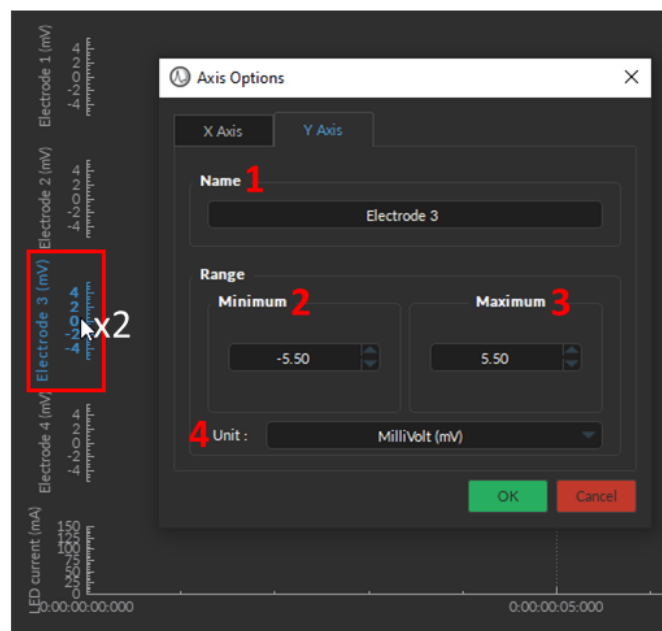

Figure 14.39: Double click on any axis to open its Axis Options window
- **Axis Options** - Each **Graph** (Fig. 14.39) has both a **Voltage** or **State** as the vertical axis and **Time** as the horizontal axis. Double-clicking either axis will open an **Axis Options** window (Fig. 14.39) where the axis limits can be set, similar to the **Zooming Range** in the **View Tab**. Any changes done on a horizontal axis will change the axis limits for every channel.